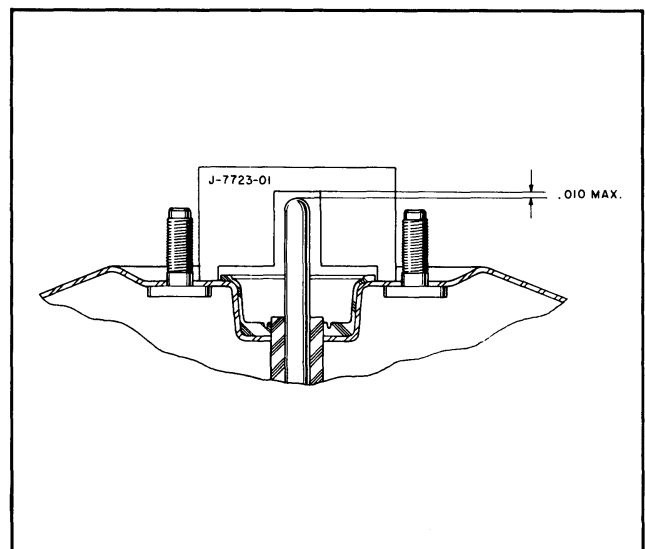

Fig. 5B-13 Push Rod Adjustment
2. Place gauge J-7723 over piston rod so that it fits between the two studs on front housing (Fig. 5B-13). It should be parallel to studs and resting